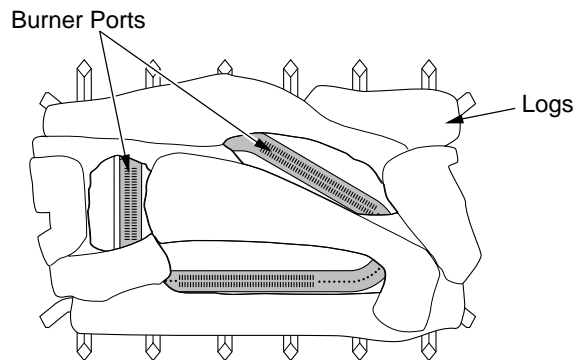

Figure 21 - Installing Log Set (Top View)
4. Make sure open areas of logs line up with burner ports (see Figure 21). Logs will fit securely on chassis. **IMPORTANT:** Make sure log does not cover any burner ports.